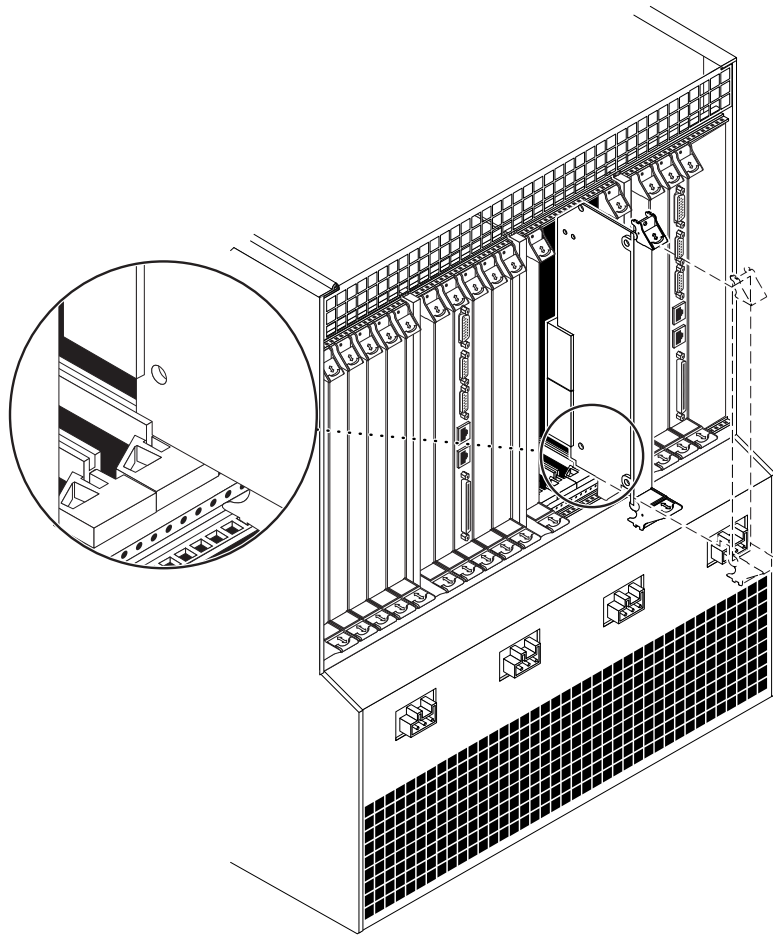

FIGURE 5-10 Aligning the Card With the Rear Card Cage Cutouts
6. Keeping the card vertical, slide the I/O rear transition card in between the two guides into the slot (FIGURE 5-10).